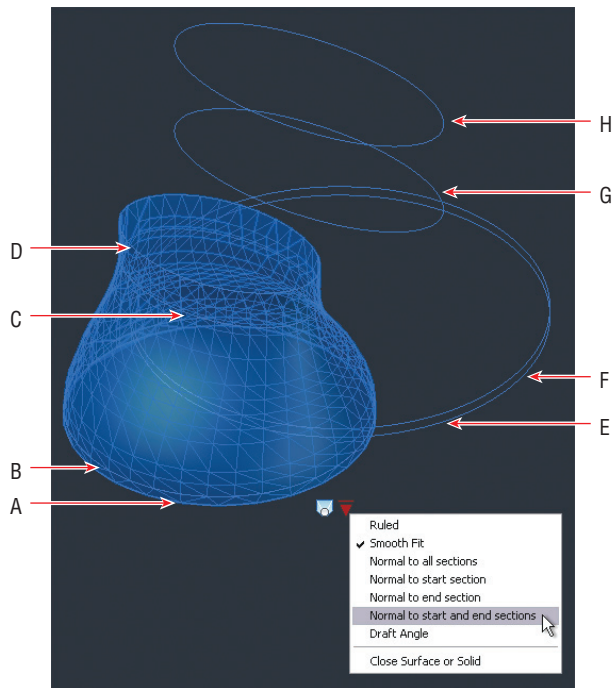
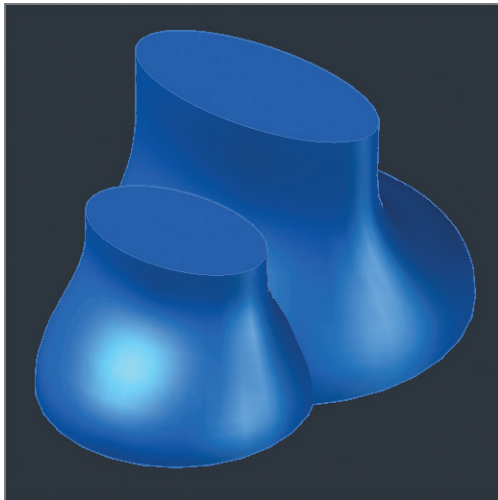

FIGURE 17.20 Lofting one of the two ventilation towers
FIGURE 17.21 Lofted ventilation towers
3. Zoom in on the collection of blue circles and ellipses. Select the Loft tool from the drop-down menu under Sweep on the Solid panel, and press Enter. Select profiles A, B, C, and D shown in Figure 17.20, and press Enter. Open the grip menu that appears, and choose Normal To Start And End Sections. Press Enter to end the LOFT command.
4. Press the spacebar to repeat the LOFT command. Select profiles E, F, G, and H, shown in Figure 17.20, and press Enter. Open the grip menu that appears, choose Normal To Start And End Sections, and press Enter. Figure 17.21 shows the result.